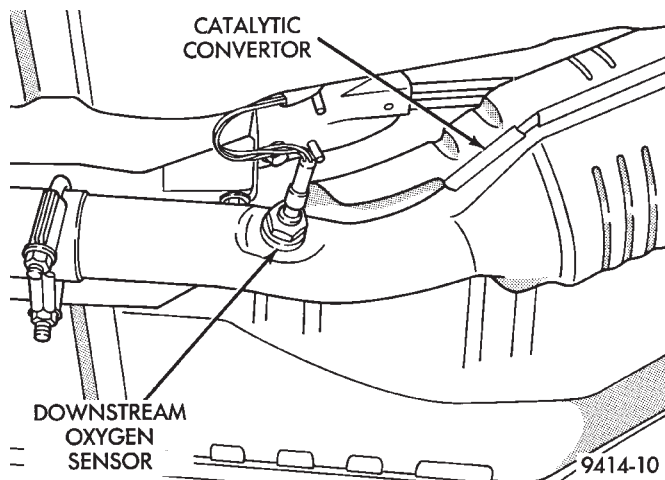
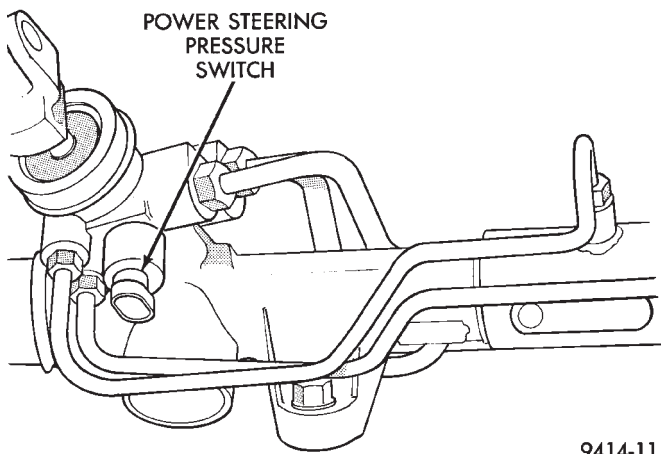
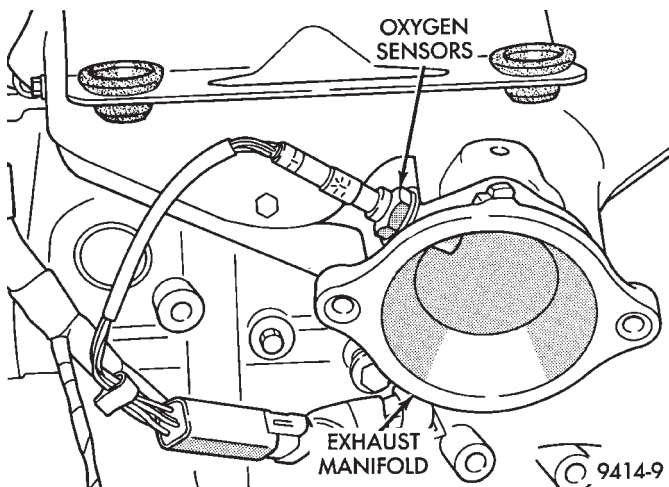

Fig. 26 Downstream Heated Oxygen Sensor
Fig. 24 Power Steering Pressure Switch
Fig. 25 Upstream Heated Oxygen Sensor
(20) Inspect the electrical connections at the upstream and downstream heated oxygen sensors (Fig. 25) and (Fig. 26).
(5) Remove at power steering pump, the power steering fluid hose coming from the power steering fluid reservoir. Let the power steering fluid drain out of the reservoir and hose.
(6) Lower vehicle.
(7) Remove hose clamp attaching the power steering fluid supply hose to the power steering fluid reservoir (Fig. 24).
(8) Remove the power steering fluid supply hose from the vehicle. Hose is removed from the top of the engine compartment.
(1) Install and correctly route the power steering fluid supply hose from remote fluid reservoir down to power steering pump.
(2) Install the fluid supply hose onto the power steering fluid reservoir (Fig. 24). Install the hose clamp on the fluid supply hose. **Be sure hose clamp is installed past bead on fluid reservoir fitting.**
(3) Raise vehicle on jack stands or centered on a frame contact type hoist. See Hoisting in the Lubrication and Maintenance section of this service manual, for the required lifting procedure to be used for this vehicle.
(4) Install power steering fluid supply hose on power steering pump. Install the hose clamp on the fluid supply hose. **Be sure hose clamp is installed past bead on pump fitting.**
(5) Lower vehicle.
(6) Install routing clip on power steering fluid supply hose. Be sure routing clip is installed in a position to correctly align with stud in strut tower.
(7) Install routing clip for power steering fluid supply hose on stud in strut tower (Fig. 25).
(8) Fill the remote fluid reservoir to the proper level and let the fluid settle for at least two (2) minutes.
(9) Start the engine and let run for a few seconds. Then turn the engine off.
(10) Add fluid if necessary. Repeat the above procedure until the fluid level remains constant after running the engine.
(11) Raise the front wheels off the ground.
(12) Start the engine. Slowly turn the steering wheel right and left, lightly contacting the wheel stops.
(13) Add power steering fluid if necessary.
(14) Lower the vehicle and turn the steering wheel slowly from lock to lock.
(15) Stop the engine. Check the fluid level and refill as required.
(16) If the fluid is extremely foamy, allow the vehicle to stand a few minutes and repeat the above procedure.
(1) Remove cap from power steering fluid reservoir.
(2) Using a siphon pump, remove as much power steering fluid as possible from the power steering fluid reservoir.
(3) Raise vehicle See Hoisting, Group 0. Put oil drain pan under vehicle to catch power steering fluid.
(4) Raise the heat sleeve on the power steering fluid return hose (Fig. 26) to expose the return hose to steel tube connection. Remove the hose clamp from the power steering fluid return hose (Fig. 26). Remove power steering fluid return hose from steel tube and allow power steering fluid to drain from pump.